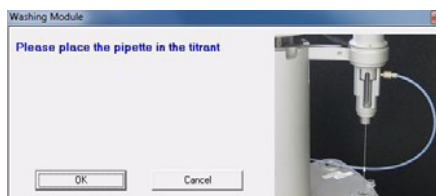

Figure 7. Replacing the reference cell lid over the reference cell port.
- 13 Repeat steps 11 and 12 for the reference cell, using distilled water instead of buffer and EDTA. To prevent evaporation from the reference cell, be sure to replace the reference cell lid over the reference cell port (Figure 7).